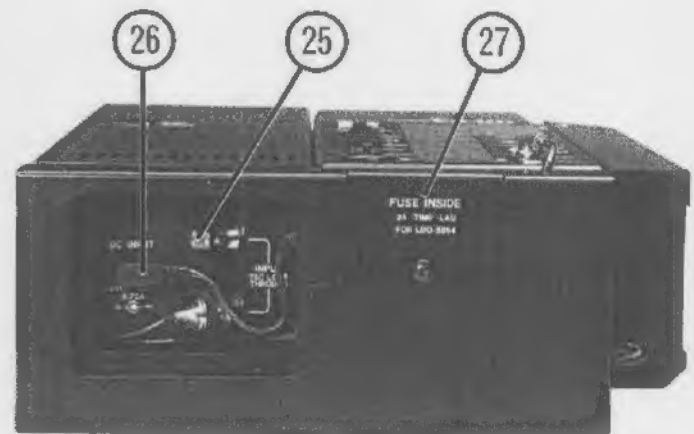

Figure 2-4. Rear panel
Refer to Figure 2-4 for references (23) to (27)
- (23) **Battery compartment**